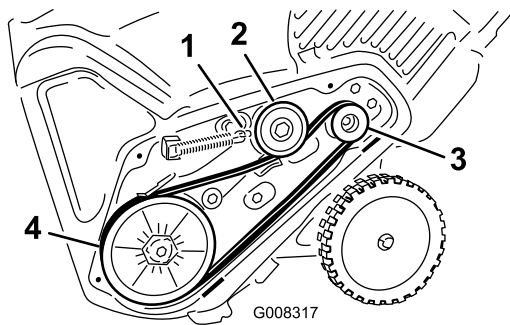

Figure 28
- 5. Install the new drive belt, routing it as shown in (Figure 28).
8. Install the brake spring onto the idler arm (Figure 28).